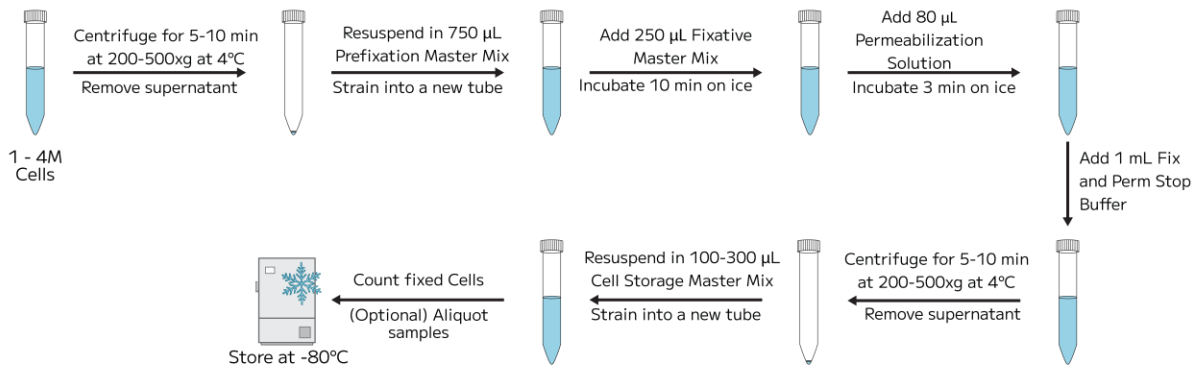

Figure 4: High Input Evercode Cell Fixation v4 Workflow.
**Figure 4: Example Centrifugation Optimization Experiment.** In this example, the sample is first centrifuged at 200 x g for 10 minutes. The pellet is resuspended in Cell Storage Master Mix, and the first supernatant is centrifuged again at 300 x g for 10 minutes. The second pellet is resuspended in Cell Storage Master Mix, and the second supernatant is centrifuged again at 400 x g for 10 minutes. This final, third pellet is resuspended in Cell Storage Master Mix and the third supernatant is discarded. The three resuspended pellets are then counted with a hemocytometer. In this example, the cells centrifuged at 400 x g are aggregated with significant debris, so this resuspended pellet should be discarded. Conversely, the cells centrifuged at 200 x g and 300 x g were high quality, so they were pooled together. Once pooled, this sample has ~50% retention. These results suggest that this sample type should be centrifuged at 300 x g. These results suggest that this sample type should be centrifuged at 300 x g throughout all Evercode workflows.